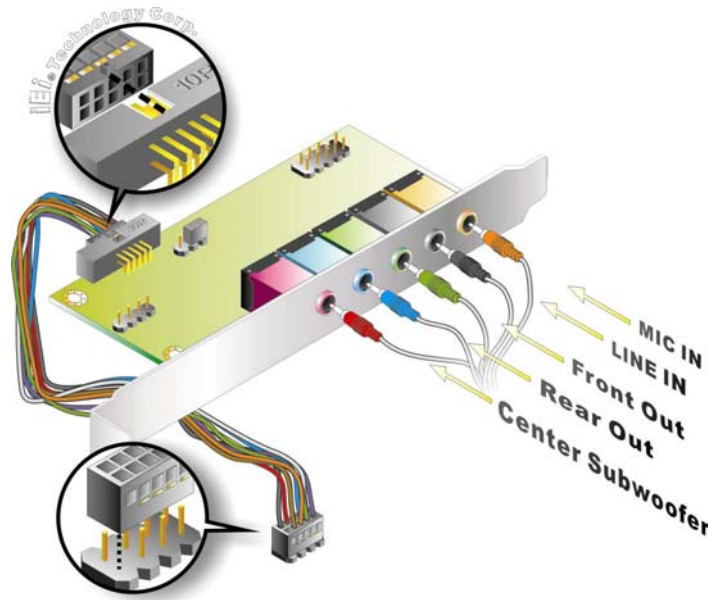

Figure 4-11: 7.1 Channel Audio Kit
- Step 3: Align pin 1.** Align pin 1 on the on-board connector with pin 1 on the audio kit cable connector. Pin 1 on the audio kit cable connector is indicated with a white dot. See Figure 4-11.